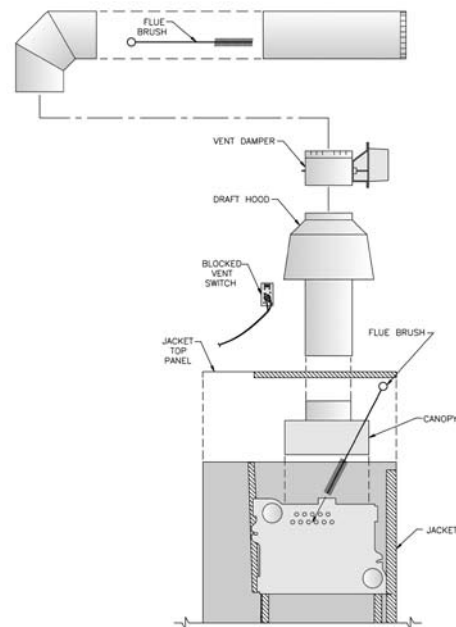

Figure 29: Cleaning of Vent System and Boiler Flues
- G. Remove all accumulations of soot with wire brush and vacuum, see Figure 29. Remove all obstructions. Replace all deteriorated parts and support properly. Seal all joints.
3. CLEANING BOILER FLUES, see Figure 29.
If the flue passageways need cleaning, remove burners as described in paragraph 4 below. Using long handle wire or bristle flue brush and vacuum, brush flueways thoroughly from top of boiler as illustrated in Figure 29. Replace canopy and seal with boiler putty. Reinstall Jacket Top Panel, draft hood, blocked vent switch, damper (if boiler is so equipped), and vent pipe.